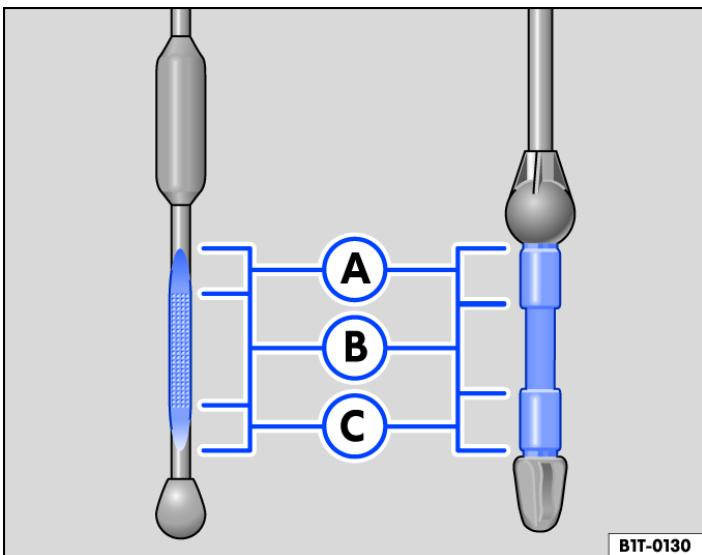

Fig. 1 Oil dipsticks with markings (variants).
7. Pull out the oil dipstick again and read the engine oil level on the dipstick as follows → *Fig. 1*:
13. After filling, the engine oil level should be in the middle of the area → *Fig. 1* **B**. It should not be above **B**, i.e. in area **A**, nor should it be above area **A** → *Checking the engine oil level and refilling engine oil*.